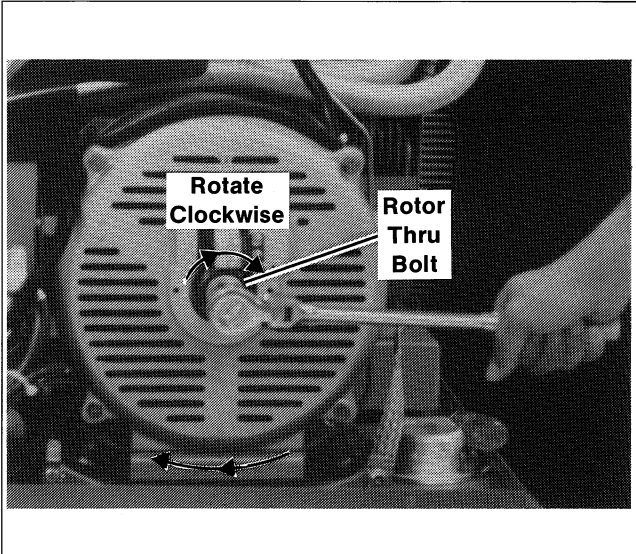

Figure 1-7. Rotating Rotor for Breaker Point Adjustment
3. Using a 3/4 in. socket wrench, rotate the rotor thru bolt clockwise until the points reach the maximum opening. See Figure 1-7.